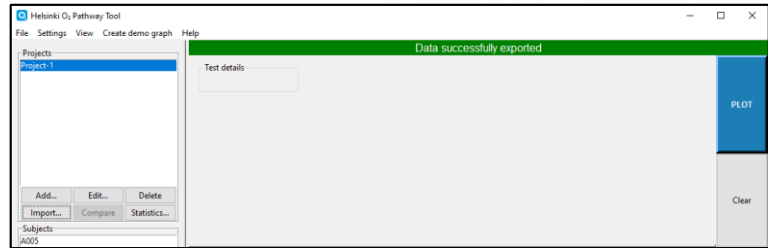

Figure 48
- Successful export is indicated with a message on green background in the top part of the window (figure 48).